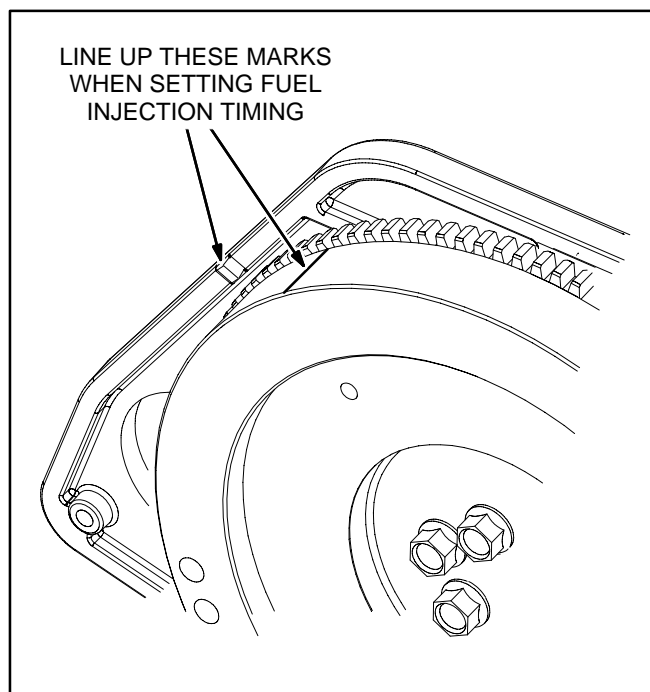

FIGURE 8-1. FUEL INJECTION TIMING MARKS
**Fuel Injection Timing Marks:** Note the fuel injection timing marks (Figure 8-1), which line up at 19° BTDC. They are visible when the back or side panel is removed (Page 4-1).
**Adjusting Valve Lash:** Do not use the fuel injection timing marks (Figure 8-1) when adjusting valve lash. Using them could lead to misadjustments.